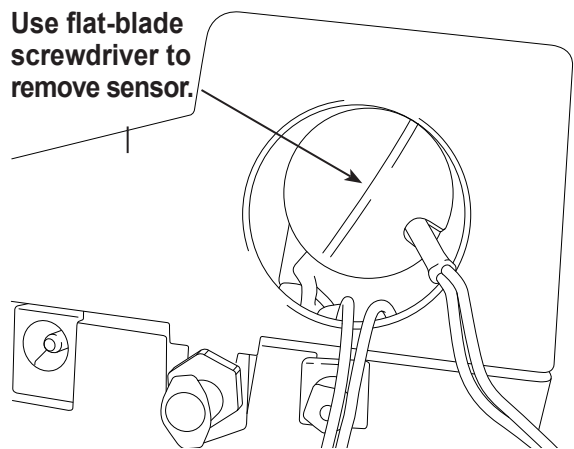

Figure 15
7. Move the cap and harness aside. Hold the lead from the sensor, and use a flat-blade screwdriver to unthread and remove the oxygen sensor. See Figure 15.